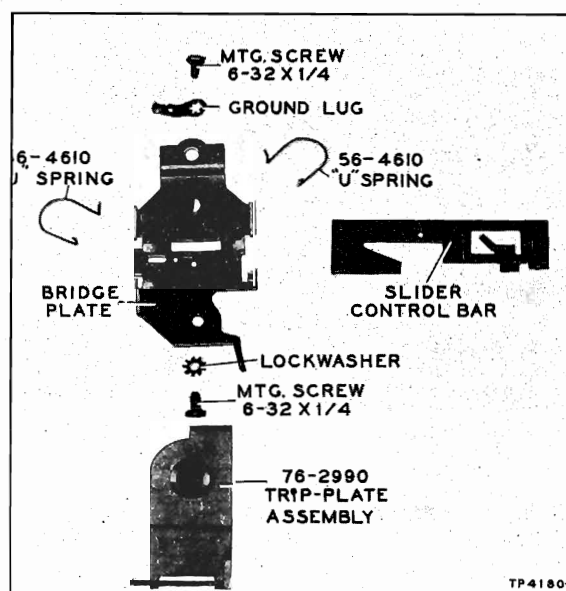

Figure 24. Bridge Assembly
- Remove link rod, Part No. 56-4589FA3, from slider control bar. Complete assembly of bridge is shown in figure 24.